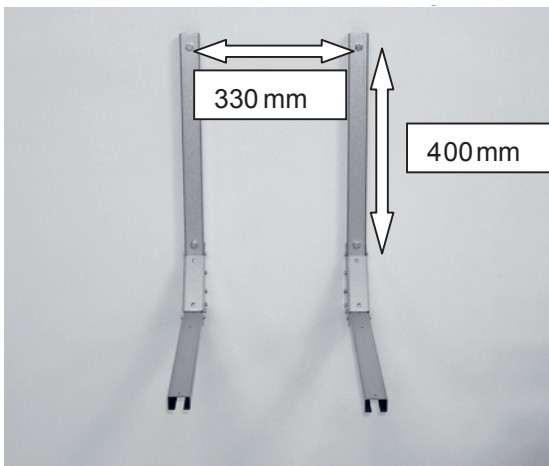

Fig 1
1. Secure the brackets to the wall by means of four 8 mm screws, with the brackets located 330 mm between the centres (see Fig. 1). Make sure that the horizontal legs are level.